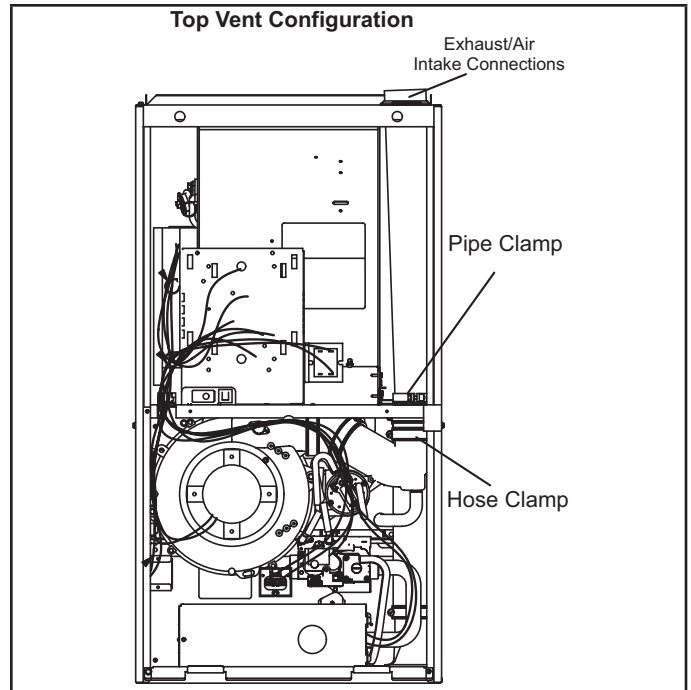
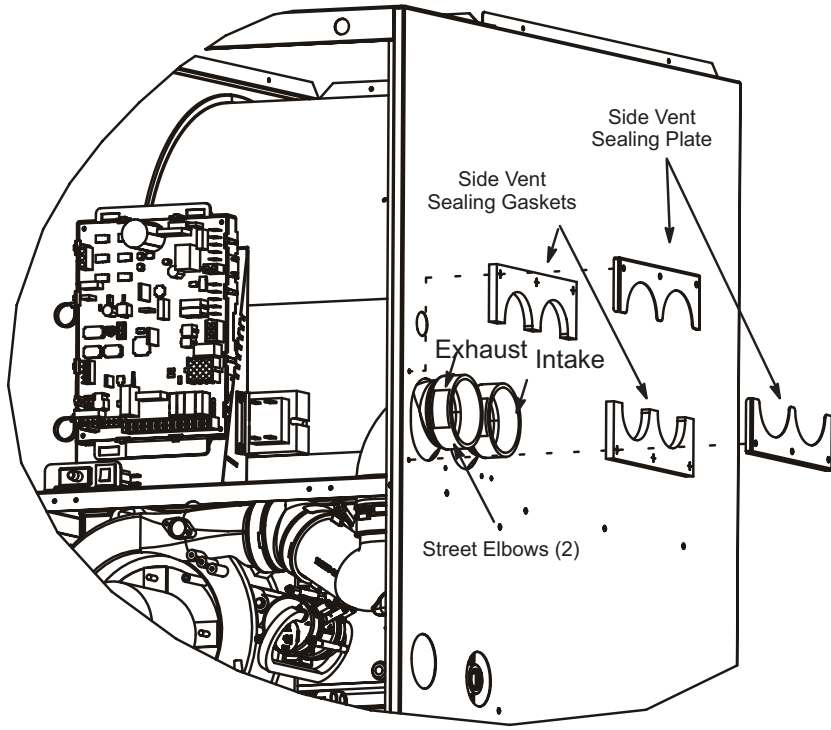

FIGURE 15
FIGURE 17
The ML296DFV is shipped with vent exhaust / air intake connection at the top cap. See figure 15. Using parts provided, the furnace may be field modified to have these connections on the right side of the furnace cabinet. See FIGURE 17 and follow the steps below. For left side venting order kit 87W73.
- 2 - Loosen hose clamps which attach rubber fittings to the white PVC pipes inside the vestibule area. See FIGURE 15.
- 3 - Loosen the clamp which secures the pipes at the blower deck. See FIGURE 15.
- 11 - Peel protective backing from side vent sealing gaskets (2) and apply to side vent sealing plates (2) as shown in FIGURE 17.
- 12 - Install the side vent sealing plates and gaskets on the exterior of the cabinet as shown in FIGURE 17. Secure with six mounting screws (four reused and two provided from bag assembly). Holes are pre-punched in the parts and cabinet, no drilling is required.